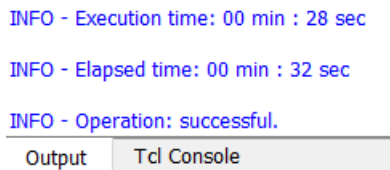

Figure 5.7. Programmer Output Window
5. If the Programmer settings do not match the settings shown in Figure 5.7 for CertusPro-NX, select these settings manually from drop down menu as shown in Figure 5.4.
- When the FPGA programming is successful, the output console displays an **Operation: successful** message as shown in Figure 5.7.